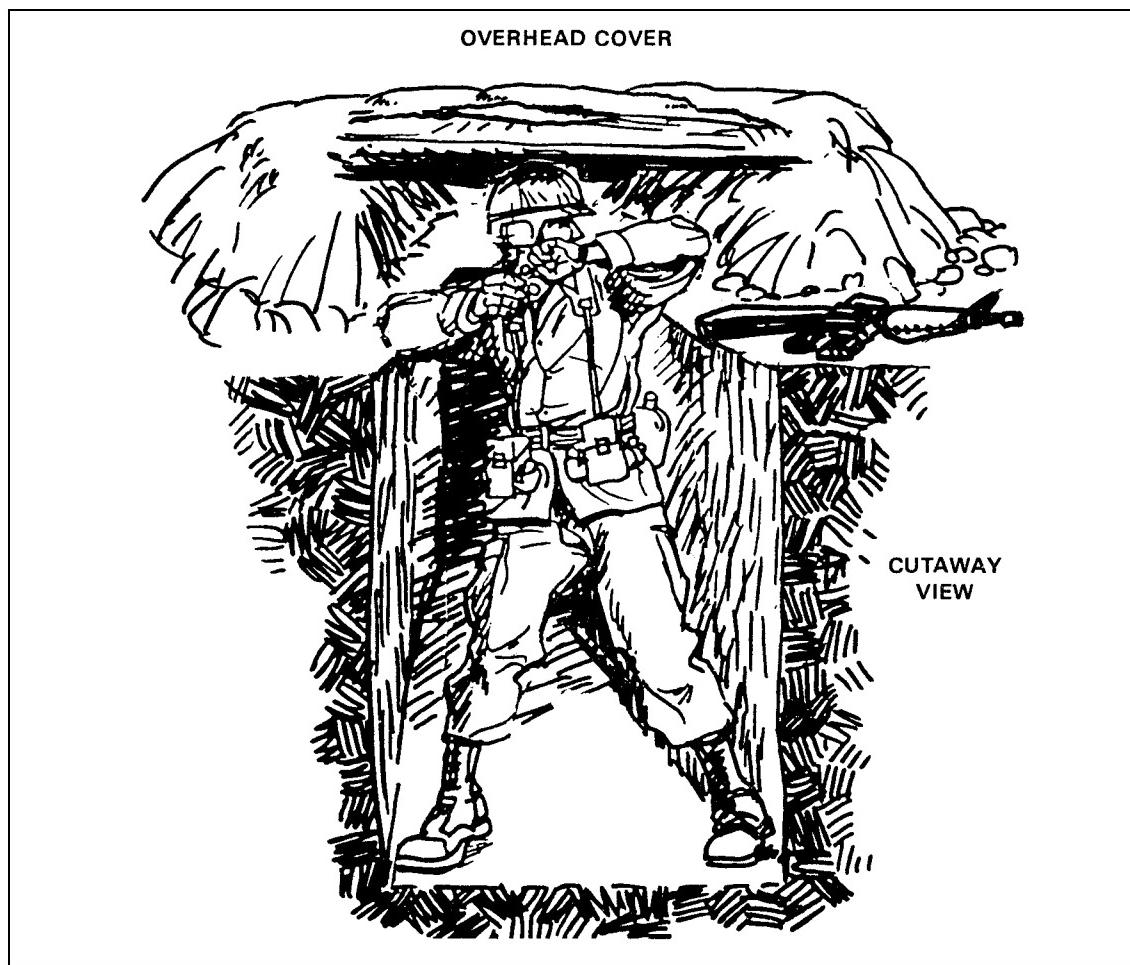

Figure 3-5. Standing throwing position.
(1) *Standing.* The standing position (Figure 3-5) is the most desirable and natural position from which to throw grenades. It allows you to obtain the greatest possible throwing distance. Soldiers normally use this position when occupying a fighting position or during operations in fortified positions or urban terrain. Use the following procedures when throwing from this position: